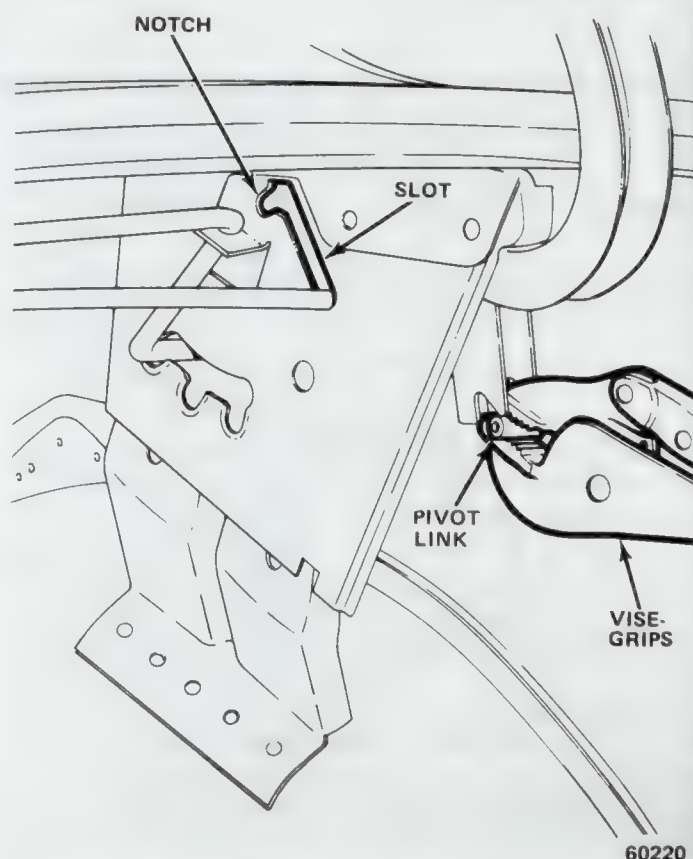

Fig. 3H-51 Torsion Rod Removal—Nonadjustable End
- (4) Attach Vise-Grip pliers to nonadjustable end of rod (fig. 3H-51).
- (5) Push down and forward on Vise-Grip pliers, at same time disengaging rod from notch at top, then lower rod to bottom of vertical slot.
- (6) Disengage and swing pivot link forward and allow rod to rest against hinge arm.
- (7) Clamp Vise-Grip pliers to adjustable end of rod and pivot rod forward and out of notched retainer. At same time, flex rod forward and down to bypass retainer (fig. 3H-50).
- (8) Slide rod toward opposite side.
- (9) Unhook rod from hinge bracket and remove.